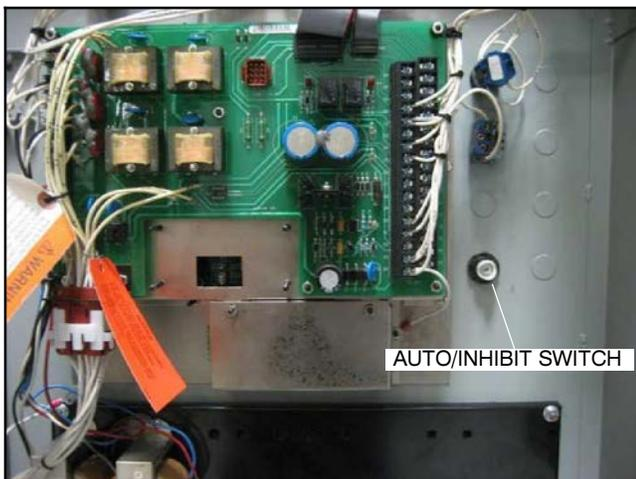

**Figure 6** Current Transformers (CTs)
8. If the transfer switch is equipped with current transformers (CTs), remove all CTs from the power lines of the ATS. See Figure 6.